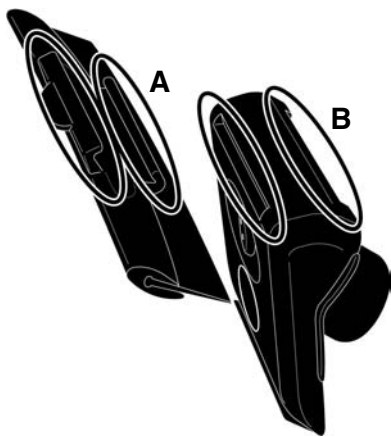

FIGURE 8
1. Note tabs on Squeegee (FIGURE 8-A), which fit into slots on top of Fabric Steamer (FIGURE 8-B).